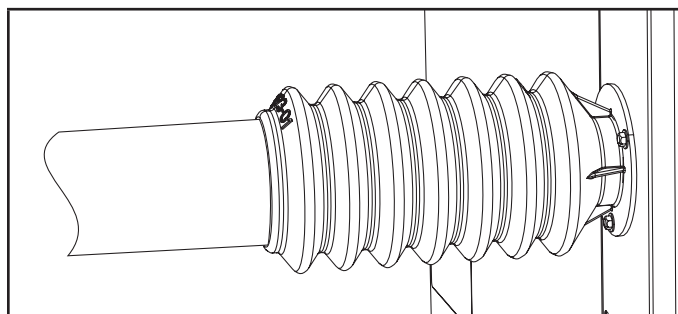

FIGURE 7. Install Armaflex Over End of Sleeve and Clamp
- 4 - Install a piece of field-supplied Armaflex over the band clamp and the end of the line set joint sleeve to prevent sweating (see figure 7).